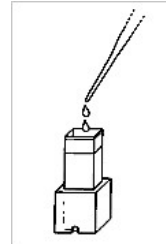

Fig. 5
1. Fill the *Gel-PICK™* with elution buffer (see Fig.5).